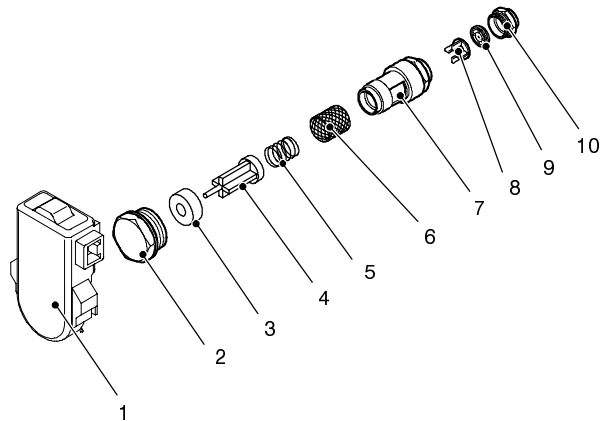

Fig. 59
When the flow rate through the d.h.w. circuit reaches about 2,5 litres/min', the float 4 (Fig. 59) is drawn towards the right.
### 15.2 Nomenclature and location of parts (Fig. 59)
- 4 Unscrew the plug 2 (Fig. 59) and extract the flow switch group.
- 5 To remove the filter from the flow switch group separate the body 7 from the plug 2 (Fig. 59) by unscrewing it.
**Attention: the ring 3 (Fig. 59) has a magnetic polarity and must be correctly coupled with the spindle of the float 4.**
- 2 Unscrew the threaded ring 10 (Fig. 59) and remove it from the body 7.